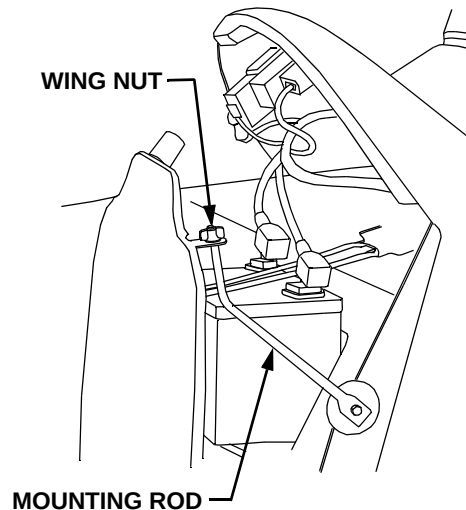

Figure 31
2. Remove the wing nut securing the LH mounting rod to the mounting tab on the left side of the bulkhead (See Figure 31). Pull the rod downward from the bulkhead tab.
10. Rotate the mounting rod downward and insert through the bottom of the hole in the bulkhead mounting tab (Refer to Figure 31).